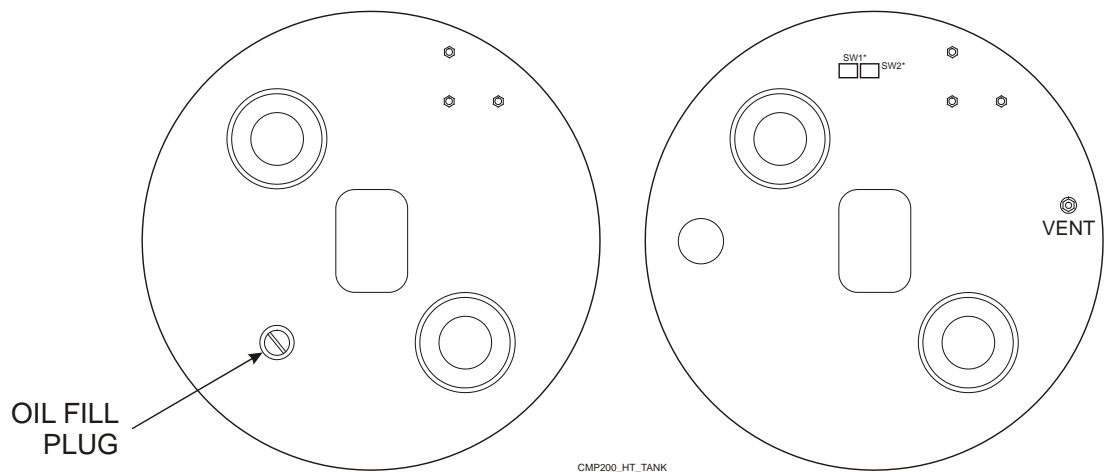

Figure 6-1: HV module oil fill
CMP 200® / CMP 200® DR X-ray generators use different styles of HV module, depending on model. Refer to Figure 6-1. For the HV module on the right side of Figure 6-1, field maintenance is neither necessary nor possible. The oil is factory-filled to the correct level and the HV module is then sealed. An air-filled "bladder" within the high voltage module will expand and contract as the oil volume changes with pressure and temperature changes.
- *For the HV module on the right side of Figure 6-1, ensure that the vent tube ("VENT" in Figure 6-1) is not blocked.*
For the HV module on the left side of Figure 6-1, the oil level in the HV module can be checked in the field and the oil can be topped up if necessary. Refer to the steps below.